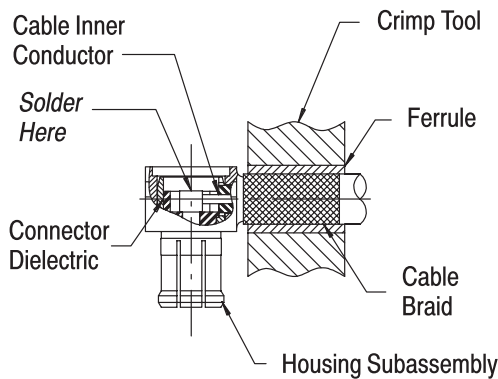

Figure 4
### 2.2. Soldering the Center Contact to the Cable Inner Conductor (Figure 4)
**2.3. Crimping the Connector to Cable** (Figure 4)